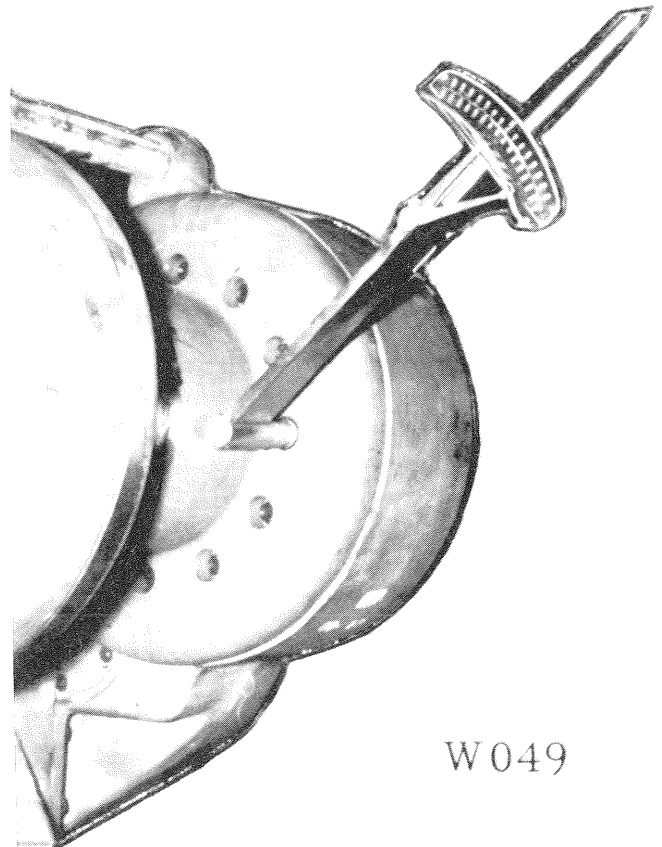

Figure 55
8. Tighten the drum drive bolts to specified torque. Fig. 55. Screw the left nut onto the drum shaft, and tighten it securely.